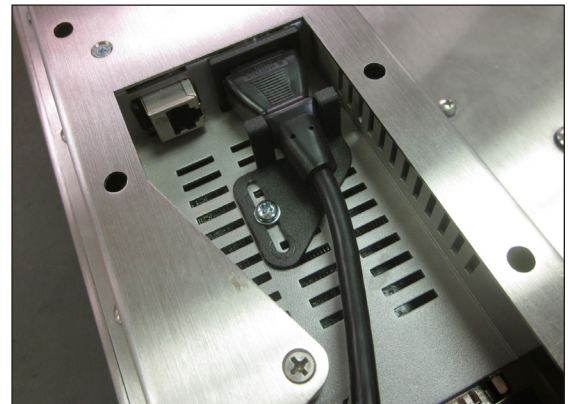

FIGURE 5
11.  Loosen the power cable retaining clip in the well on the KVM Remote Module. Connect a power cable to the module's power connector then retighten the retaining clip as shown in Figure 5.